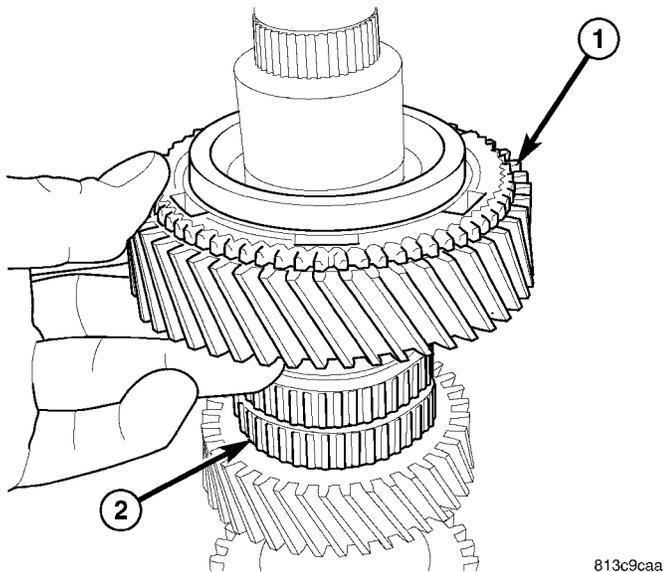

Fig. 59 SECOND GEAR
(3) Install second gear (1) (Fig. 59) on bearing (2).